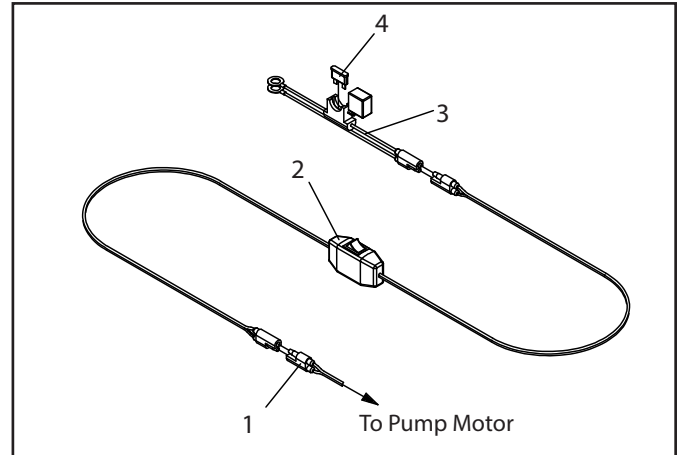

Figure 1: Wiring Harness
1. The wiring harness needs to be connected to a DC power source (vehicle battery) or a power access point providing at least 12 volts & 10 amps of current to the ring terminals on the fuse harness (3) (Figure 1). NOTE: Make sure that the selected power source provides the adequate power requirements as stated above. Inadequate power can cause problems and performance issues with the pump.
2. Connect the red wire to the positive terminal on the vehicle's battery or other alternate power source positive terminal. Proceed to connect the black wire to the negative terminal of the vehicle's battery or a good ground source. NOTE: The fused wire harness (3) (Figure 1) can be unplugged from the switch harness (2) (Figure 1) and be left attached to the battery or power source for convenience purposes.
3. Mount the switch (2) (Figure 1) in a location that is easily accessible for operation on the vehicle. Make sure to secure the switch so that it cannot fall out of place or become entangled and cause damage. NOTE: Use caution when routing the wiring harness to avoid areas where the wires could become pinched, rubbed, or exposed to excessive heat.